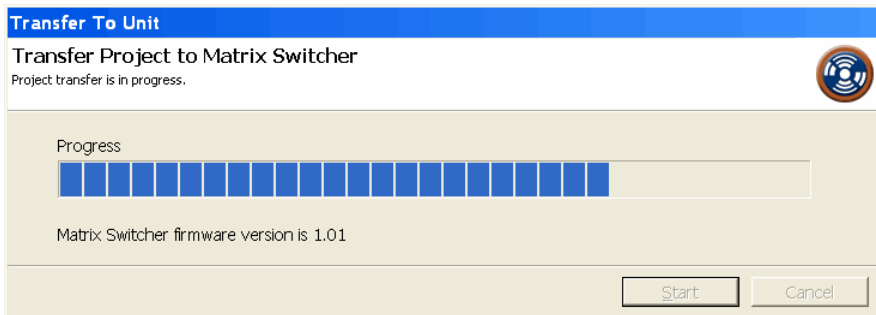

Figure 52 – A progress bar is displayed as the project is transferred
- Click the Start button. A progress bar is displayed as the project is transferred (Figure 52). The project may take one or two minutes to transfer. If a Communications Failure message is displayed, select a different COM port and try again.